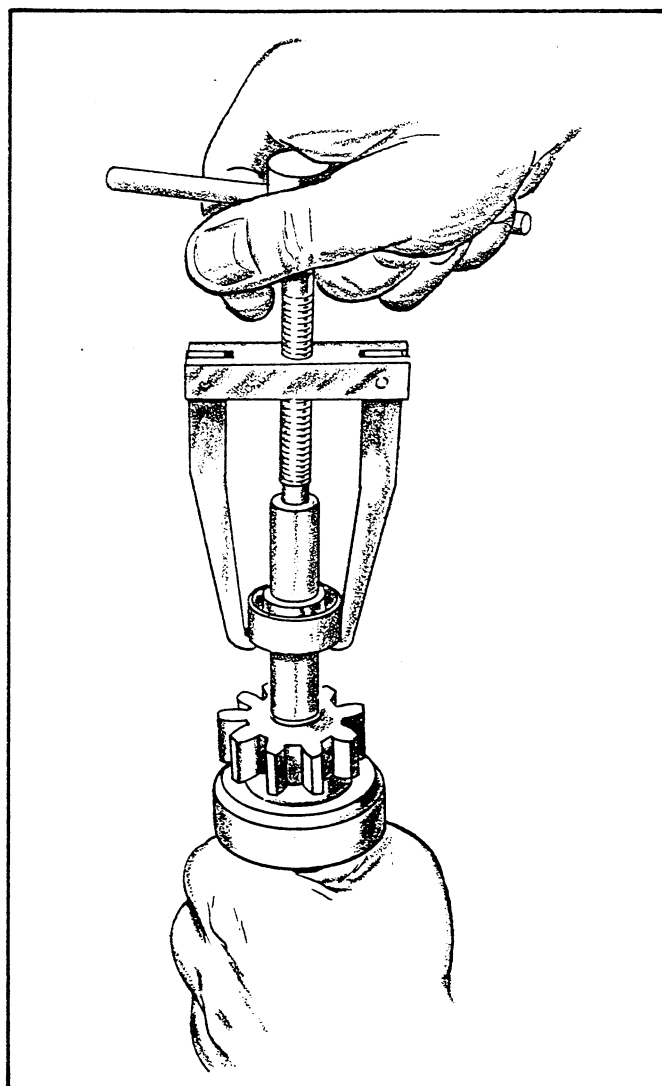

FIGURE 36. MOUNTING OVERRUNNING CLUTCH
3. To mount the overrunning clutch; first insert the pinion stopper into the armature shaft, then apply the ring to the groove of the shaft rigidly. For the insertion of the ring, use a tool as shown in Figure 36 and pull the pinion stopper up.